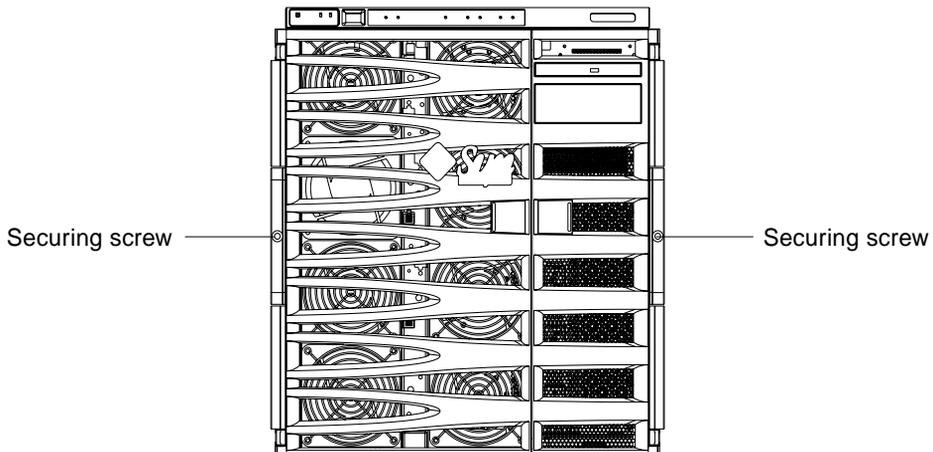

FIGURE 1-14 Tightening the Securing Screws
12. Tighten the two securing screws on the front of the server to secure the server in the cabinet (FIGURE 1-14).